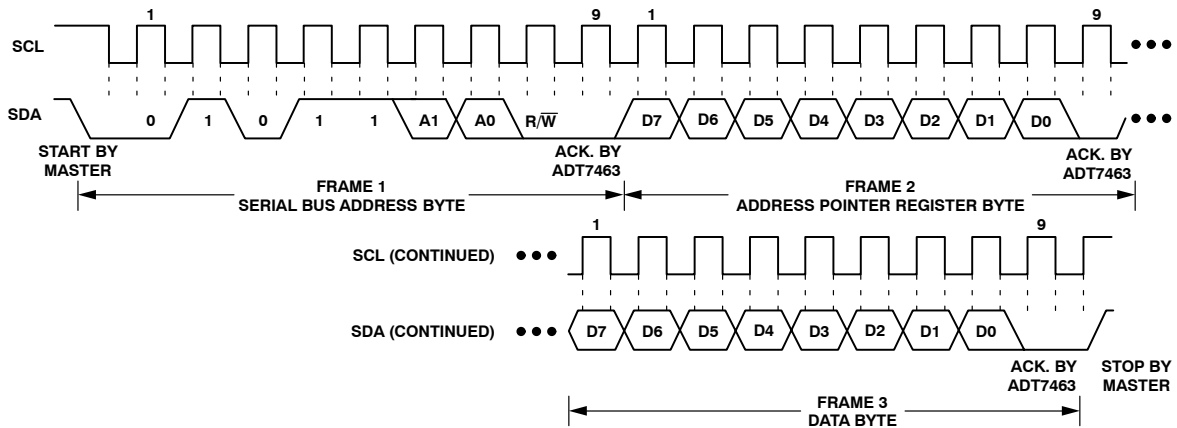

Figure 17. Writing a Register Address to the Address Pointer Register, then Writing Data to the Selected Register
This is illustrated in Figure 17. The device address is sent over the bus followed by $R/\overline{W}$ being set to 0. This is followed by two data bytes. The first data byte is the address of the internal data register to be written to, which is stored in the address pointer register. The second data byte is the data to be written to the internal data register.
2. In Figures 17 to 19, the serial bus address is shown as the default value 01011(A1)(A0), where A1 and A0 are set by the address select mode function previously defined.